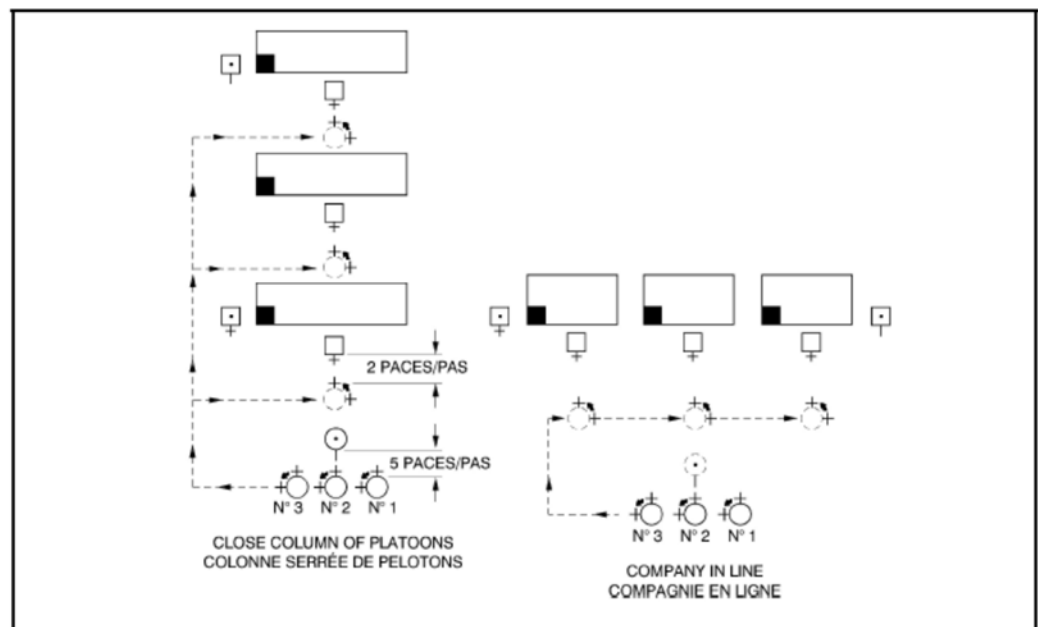

Figure 1 When Officers Fall In
3. On the command OFFICERS FALL—IN, by the deputy parade commander, Flt Comds come to attention, turn left and march to their respective squads, approaching their squads from the right flank front (as illustrated in Figure 1).
Figure 1 demonstrates the fall-in procedures when a Flt Comd and a Flt Sgt are on parade. Inform the cadets that if no Flt Comd is required to fall in, the Flt Sgt will maintain command of the flight.